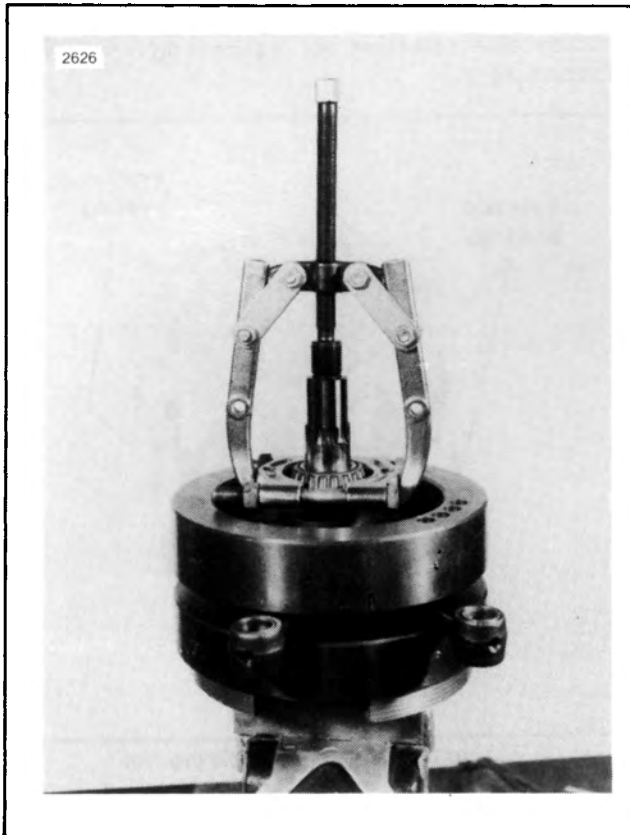

Figure 3-50. Pulling Bearing from Sprocket Shaft
1. See Figure 3-50. If flywheels are to be disassembled, place a FLYWHEEL REBUILDING JIG, Part No. HD-34813 in a vise. Insert pinion shaft into fixture and install WEDGE ATTACHMENT, Part No. HD-95637-46 and GENERAL PURPOSE CLAW PULLER, Part No. HD-95635-46 over sprocket shaft bearing. Turn forcing screw to remove bearing. Keep bearings in a set with proper bearing outer races.